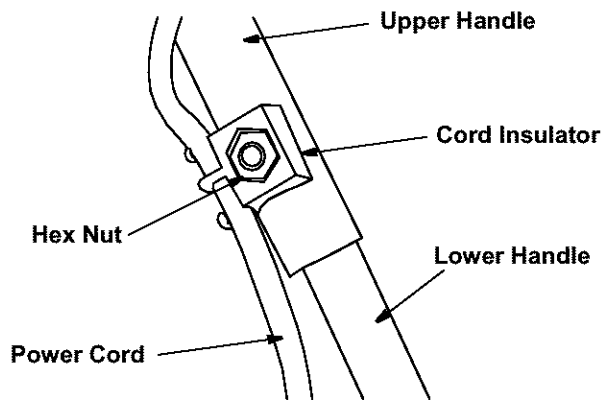

Figure 3
- Route the power cord through the cord insulator on the right handle as shown in Figure 3.